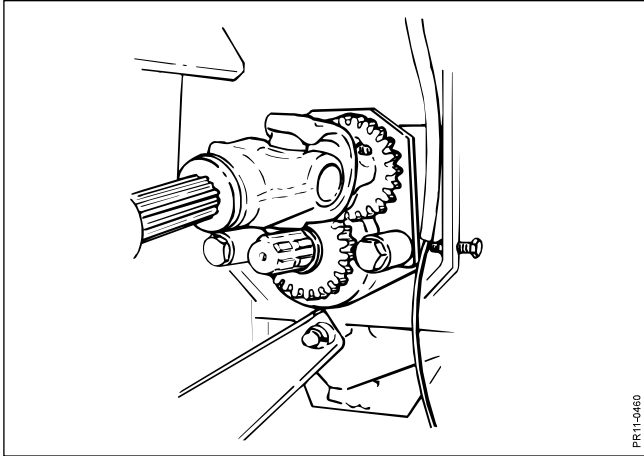

Fig. 4-22
- Fig. 4-22** 4. Mount the PTO drive shaft for the rotor on the free pin on the rotor housing.